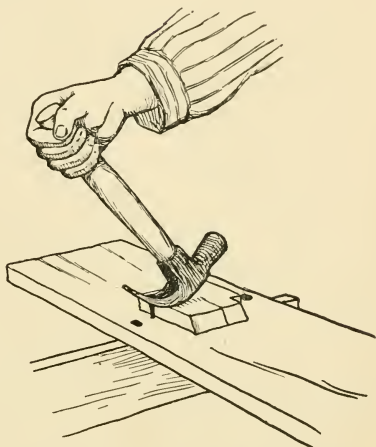

FIG. 30.—Withdrawing Nails.
**Withdrawing Nails**, especially nails whose heads are too small to be gripped with a claw hammer; but for removing large nails a stronger leverage is necessary. This can be obtained as shown in Fig. 30. The head of the nail is gripped in the claw of the hammer and a block of wood placed beneath the head. The handle of the hammer is then pulled toward you, as shown in the illustration. The block, besides increasing the leverage, prevents